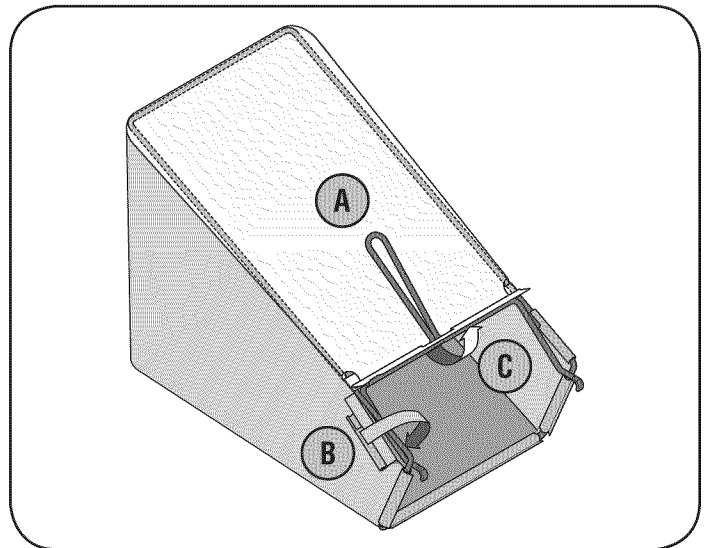

Figure 5
- b. Slip plastic channel of grass bag over hooks on the frame. See Figure 5. All the plastic channels except center top of bag attach from outside of bag.